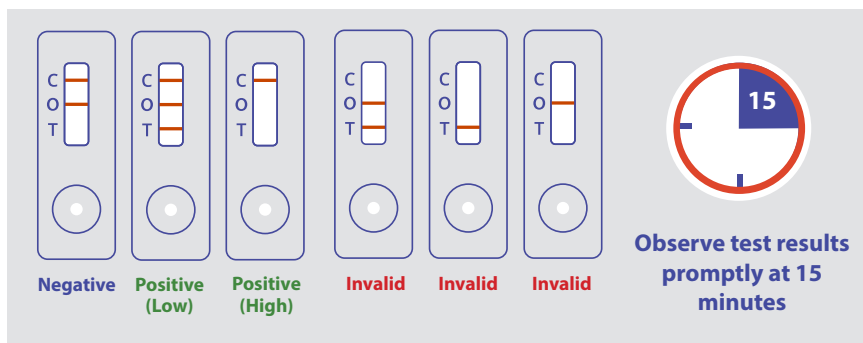

Figure 3. Interpreting Test Outcomes
9.1. A negative result is indicated by the development of a strong control line (C) and overload (O) line. An example of a negative result is depicted in **Figure 3** labeled "**Negative**".
9.2. Positive test results at lower analyte concentrations will result in the appearance of the test line (T) in addition to the overload line (O) and the control line (C). At higher analyte concentrations, both the test line (T) and the overload line (O) will disappear, leaving only the appearance of the control line (C). Thus at high analyte concentrations, the disappearance of the overload line (O) indicates that the sample is positive for the analyte regardless of the appearance of the test line (T). Examples of positive results are depicted in **Figure 3** labeled "**Positive**".